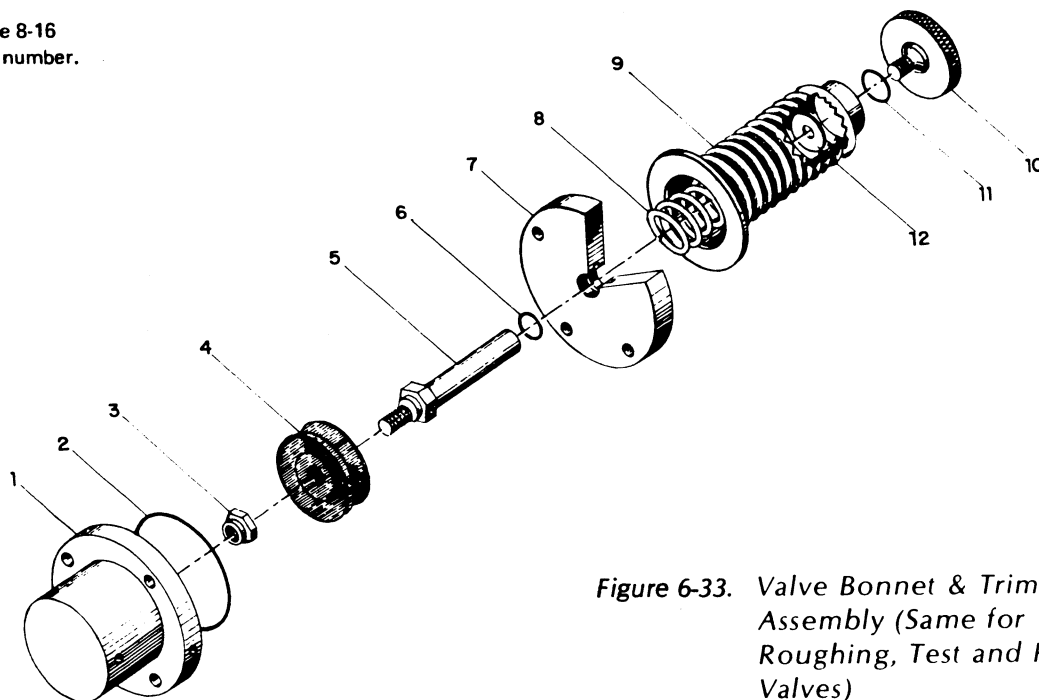

Figure 6-33. Valve Bonnet & Trim
10. Install the jet assembly, being sure that two of the five guide protrusions straddle the foreline opening, and that the jet assembly is seated as far down as shown in Figure 6-33.